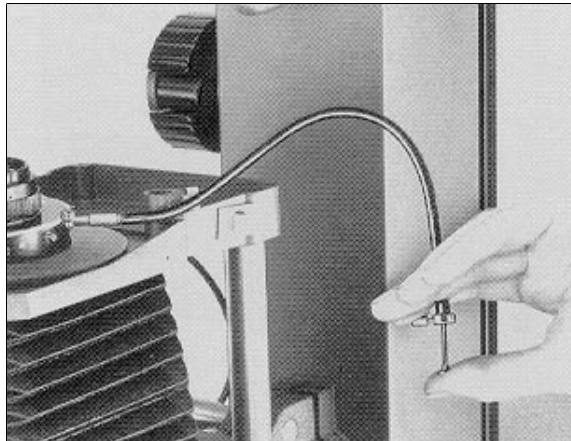

Figure 3-16. Taking the Picture
9. Make the exposure: Gently press the plunger on the cable release (figure 3-16).